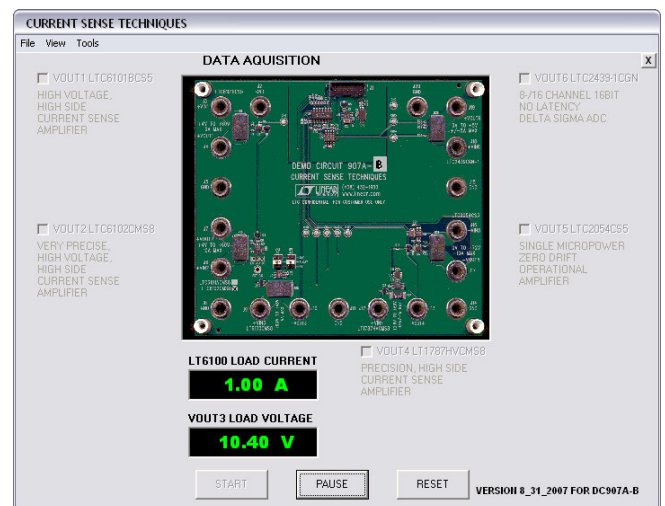

Figure 8. LT6100 IsenseB.exe display (Current and Voltage at +VOUT3)
4. Mouse-click a check in the VOUT3 LT6100CMS8 enable box and then select a gain of 10 from the pop-up menu list. Set or verify that the JP1 and JP2 configuration matches the pop-up drawing and mouse-click the OK box. Mouse-click the START box to begin data-acquisition. The IsenseB.exe presentation will then show, as in Figure 8, a continuously updated current and voltage as furnished to the load connections. To suspend updating, mouse-click the PAUSE box. The RESET box returns the program to the initial setup state. A red readout represents an out-of-range result or condition that may be beyond safe limits. A yellow readout is acceptable, but indicates being near a limit. Green readouts are well within nominal conditions.